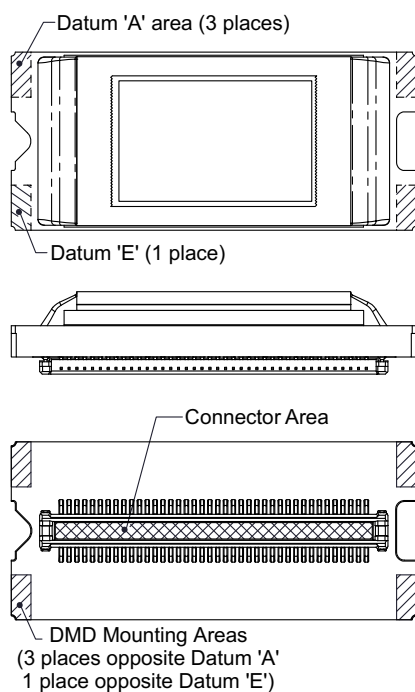
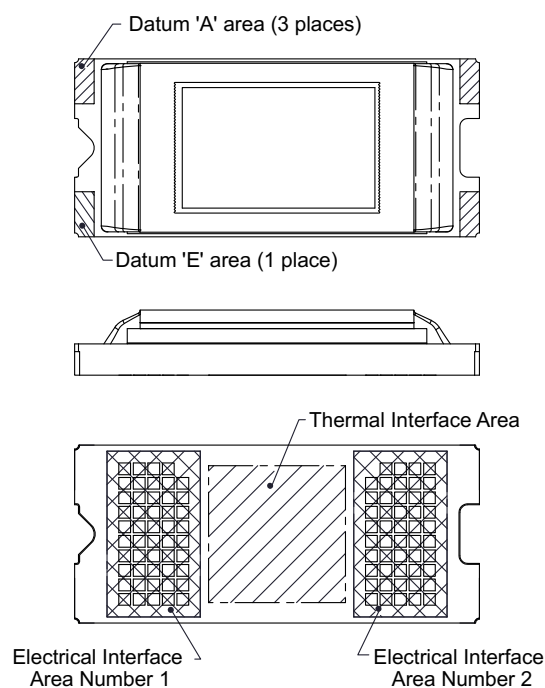

Figure 3. System Interface Loads for FQE
Figure 4. System Interface Loads for FQD
(1) See Figure 3 and Mechanical, Packaging, and Orderable Information for diagrams.
(2) See Figure 3 and Figure 4 for diagrams.